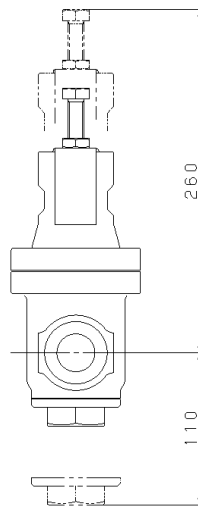

Fig.1
- (11) Install the valve perpendicularly to horizontal lines.
- (12) Provide the by-pass line. (See 5.1 Example of piping)
- (13) Set pressure of safety relief valve should be higher than the pressure reducing valve's pressure.
- (14) When the reducing ratio is large, install a reducer to keep the flow velocity in the pipe 30 m/s.
- (15) Provide space on the top and bottom of the valve so that the valve can be easily disassembled and inspected. (See Fig.1)